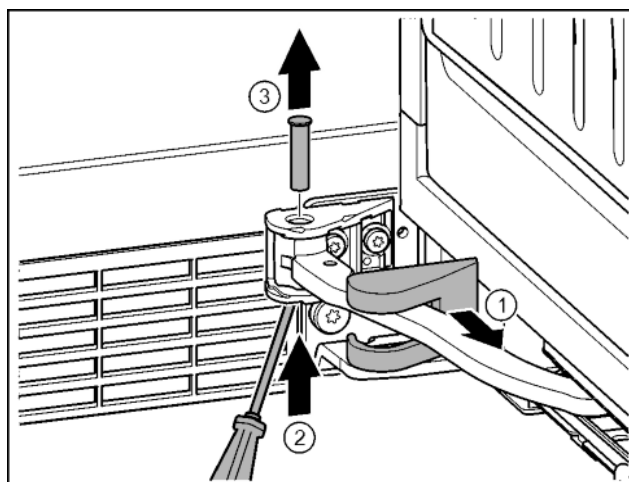

Fig. 15
- Remove the bearing bracket cover and push it along the hinge. Fig. 15 (1)
- Lift the bolt with a finger or screwdriver from below. Fig. 15 (2)
- Insert the screwdriver under the bolt head and remove. Fig. 15 (3)